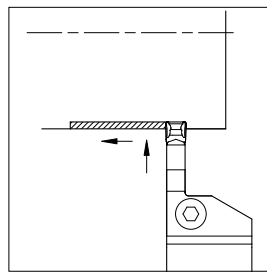

Fig. 2
2. Grooving depth under 0.5 mm: For finishing - refer to fig. 2